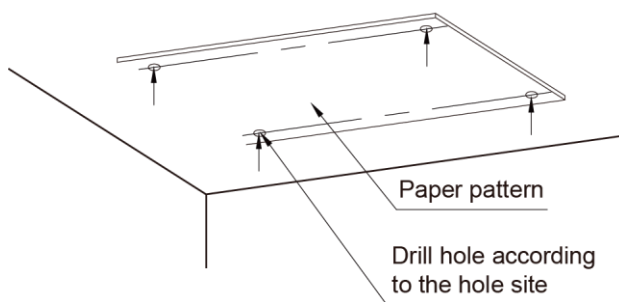
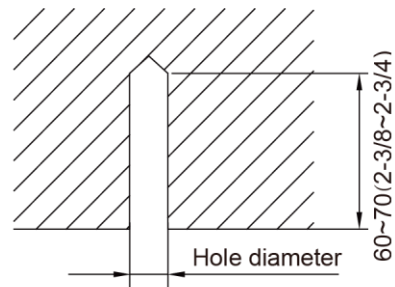

Fig 2
Fig 3
- 1) Stick the reference cardboard on the installation position; drill 4 holes according to the hole site on the cardboard as shown in Fig 2; diameter of drilling hole is according to the diameter of expansion bolt and the depth is 60-70mm(2-3/8~2-3/4 in.), as shown in Fig 3.